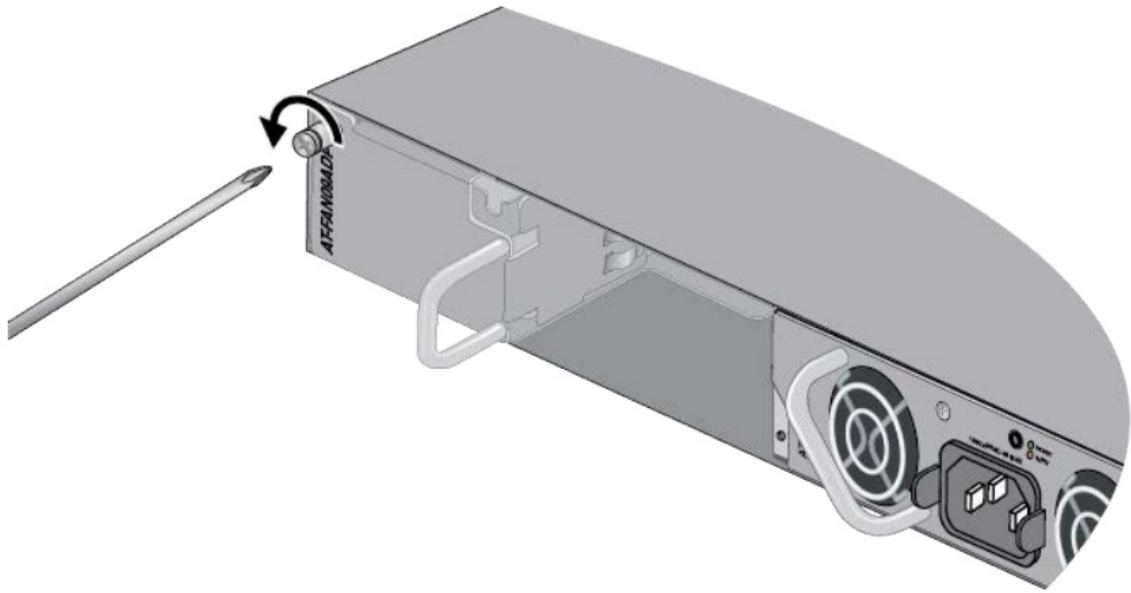

Figure 30. Loosening the Captive Screw on the AT-FAN09ADP Module
5. Use a cross-head screwdriver to loosen the captive screw on the ATFAN09ADP Module. Refer to Figure 30.